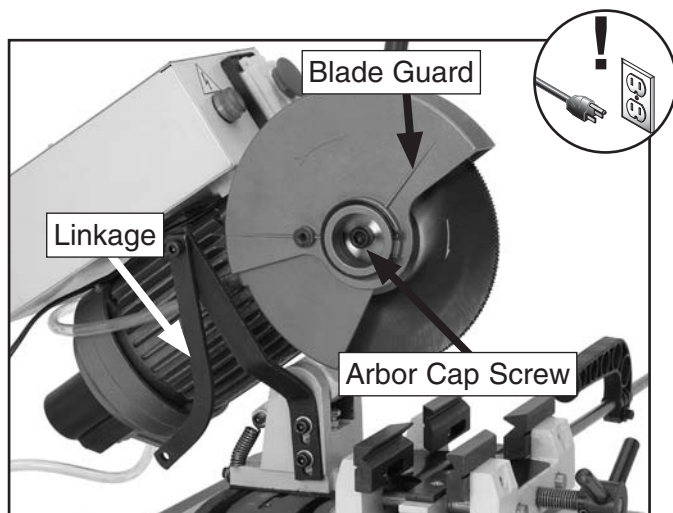

Figure 23. Exposing blade.
3. Rotate the blade guard and linkage out of the way, as shown in **Figure 23**.
4. Remove the arbor cap screw. It has left-hand threads and loosens when turned clockwise (**Figure 23**).